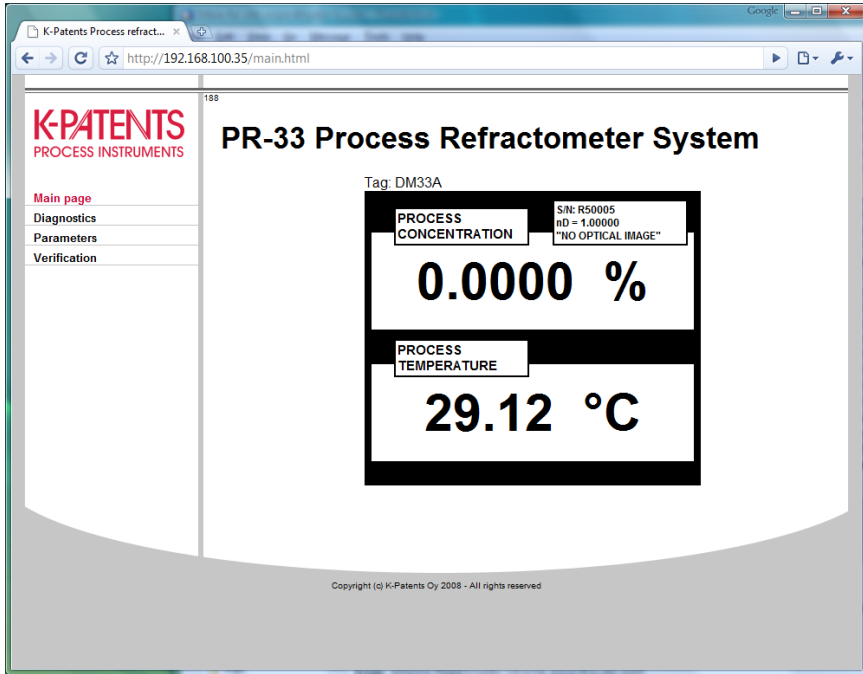

Figure 11 Main page (refractometer not in process)
4. Wait until the homepage loads. This may take a few seconds. The page loads as shown in Figure 11 \(page 18\); the exact look of the page depends on your browser and screen settings, so slight variation can be expected.